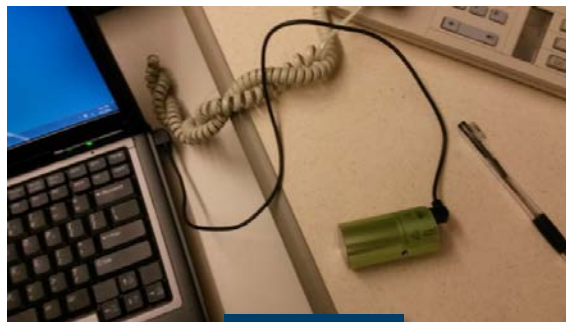
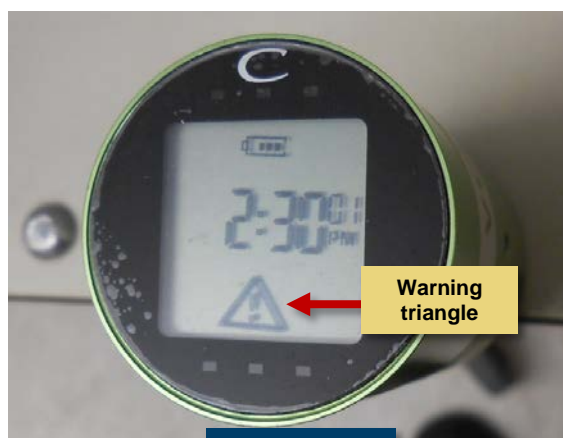

Figure 2
Figure 3
The CairClip must be powered on continuously for proper operation. In other words, either its lithium-ion (Li-ion) battery must have sufficient charge, or it must be plugged into a power source such as a fully-charged or plugged-in computer (Figure 2). You must also download and install the CairClip software and then configure your device. The following procedures will prepare your device for data collection.
The sensor can be charged by connecting it directly to a power source or by connecting it to a USB port of a computer, which is connected to a power source (Figure 2). It takes approximately 4 hours to charge the device. When fully-charged, the CairClip can operate for more than 24 hours. It is strongly recommended that the sensor battery be recharged frequently, preferably after each 24 hours of operation. This is important especially if the battery is nearly depleted, which causes the unit to switch to standby mode (indicated by the warning triangle shown in Figure 3).
1. Connect the CairClip to the computer using the USB cable as shown above in Figure 2.